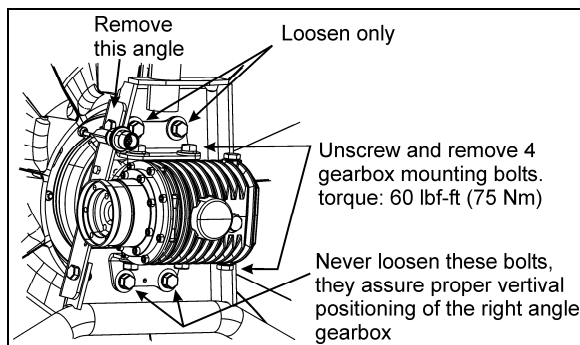

FIGURE 27: RIGHT ANGLE GEARBOX MOUNTING 05126
5. Dismount the angle (see fig. 27).